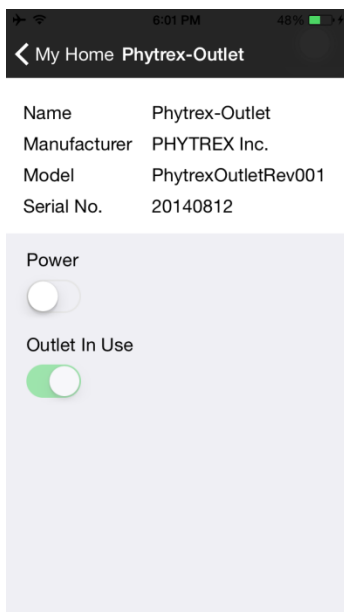

Figure 42: Outlet In Use "On" Screenshot from Homekit Apps
- Step 14: Add the Jumper on J20 (Figure 42) then check the LED indicator and the Event Notification Status feedback